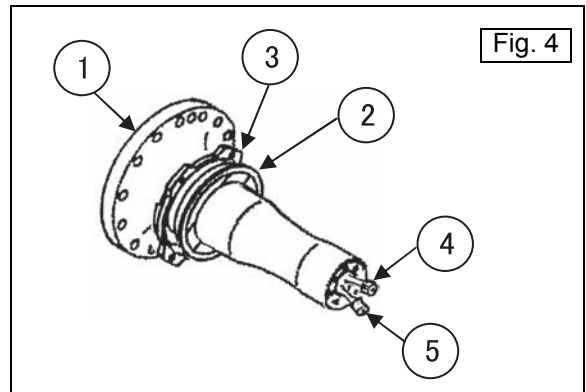

Fig. 4
- 3) Sling the machine with 2 cranes having at least 50 ton capacity each to unload from the trailer and place it on the stands described above. (Fig. 4)
- Front: Hang 2 wires (ø 42 mm) to the hook of the undercover by using 2 shackles and sling as shown in (Fig. 4).
- Rear: Install wires (ø 42 mm) to the upper pins for installing the rear work equipment (ripper) (1 each on the right and left sides) and sling as shown in (Fig. 4).
Install 1 and 2 wire rope slings to the front and rear of the machine respectively as shown in (Fig. 4) and sling the machine with 2 truck cranes (Install the front slings to 1 truck crane and install the rear slings to another truck crane). Unload the machine from the trailer and place it on the chassis stand installed on the ground.
Remarks 1. Torsion seal (2) is press fitted to the large diameter end of pivot shaft (1) in advance. In addition, torsion seal retainer (3) is fitted in a free rotation state to bring the torsion seal in close contact with the track frame that will be described later. (Fig. 4)
2. There are 2 tilt hoses (4) and (5) for work equipment hydraulic system coming out of the pivot shaft mounting seat of the machine.
At this time, do not twist the tilt hoses spirally inside the pivot shaft hole and set the one having identification color mark up. (Fig. 4)
★ For the position of the crane and slinging method, see (Fig. 4) and (Fig. 5).
3. (Fig. 4) and (Fig. 5) show the right track frame assembly.